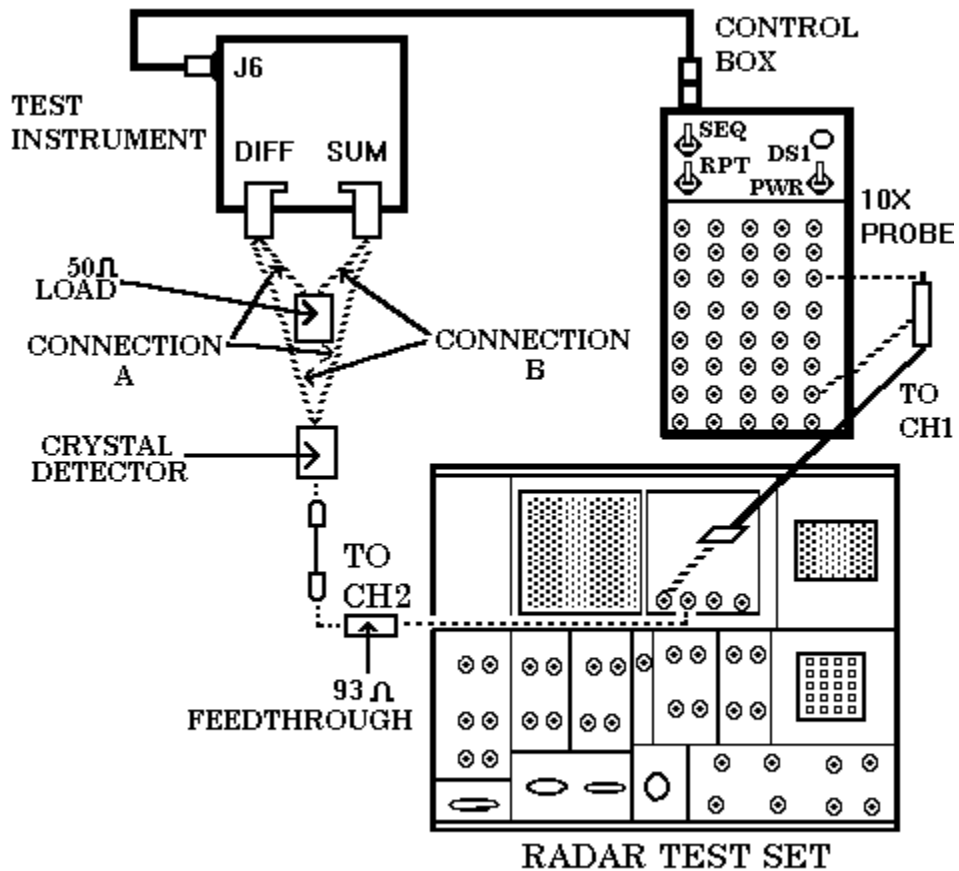

Figure 5. SUM and DIFF pulse measurement - equipment setup.
- q. Connect equipment as shown in figure 5, CONNECTION A, and allow sufficient time for equipment warmup.